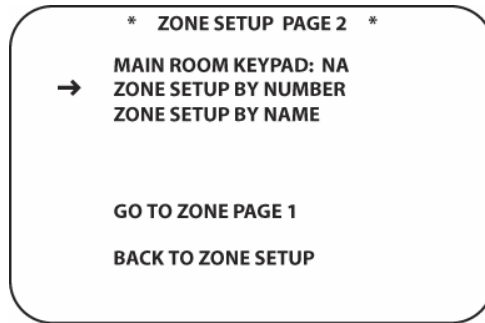
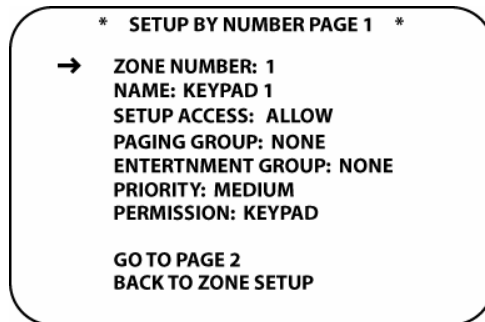

Figure 109 Zone Setup Page 2
Figure 110 Zone Setup By Number Page 1
- To exit setup, press the **Exit Button [oval 18]**. To continue Zone Setup, position the cursor next to **BACK TO ZONE SETUP** and press the **Set Button [oval 18]**. **ZONE SETUP PAGE 1** will appear. Press the **▼/▲ Navigation Button [oval 16]** to position the cursor next to **GO TO ZONE PAGE 2**. Press the **Set Button [oval 18]**. The **ZONE SETUP PAGE 2** screen will appear. (**Figure 109**). Press the **▼/▲ Navigation Button [oval 16]** to position the cursor next to **ZONE SETUP BY NUMBER**. Press the **Set Button [oval 18]**. The **SETUP BY NUMBER PAGE 1** screen will appear. (**Figure 110**)